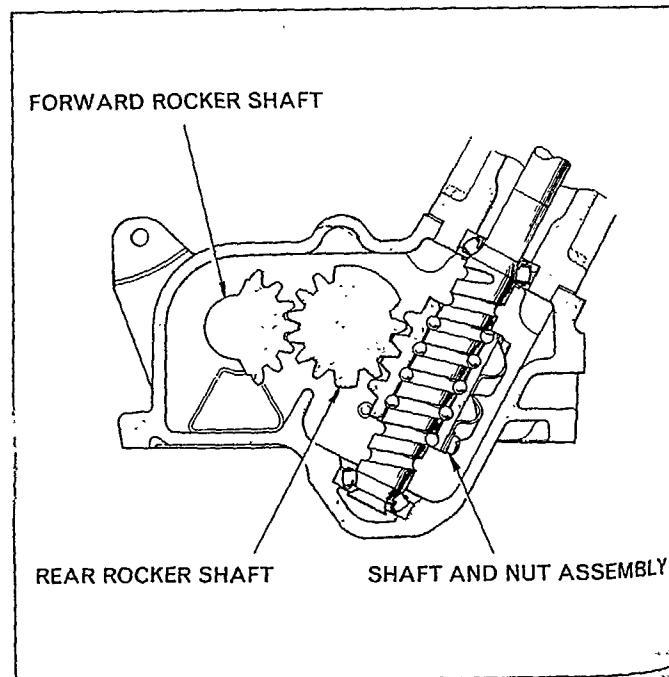
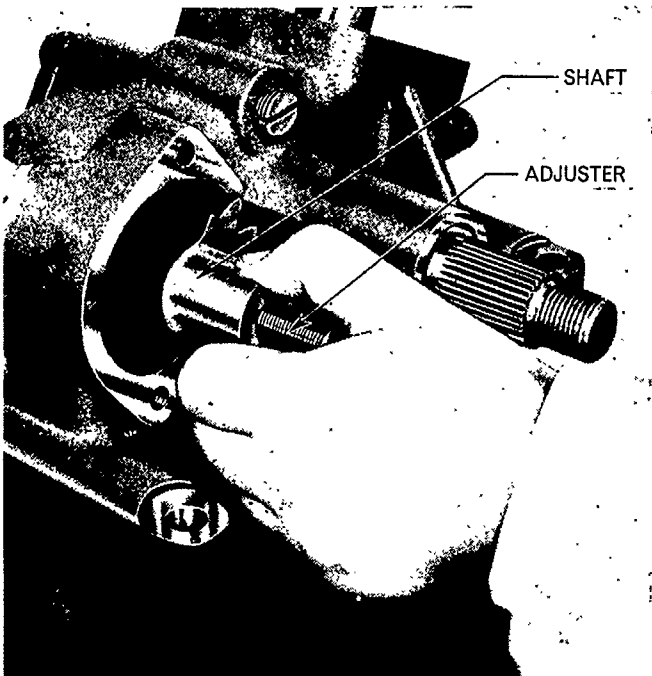

Figure 8
Figure 9
4. Install the rear rocker shaft in the housing engaging the gear with the steering nut. Make sure that the centre tooth on the gear is correctly engaged between the second and third teeth on the steering unit, Figure 8.
correctly engaged, Figure 8. The centre (fourth) tooth on the forward shaft engaged with the centre (fourth) groove in the rear shaft, Figure 9.